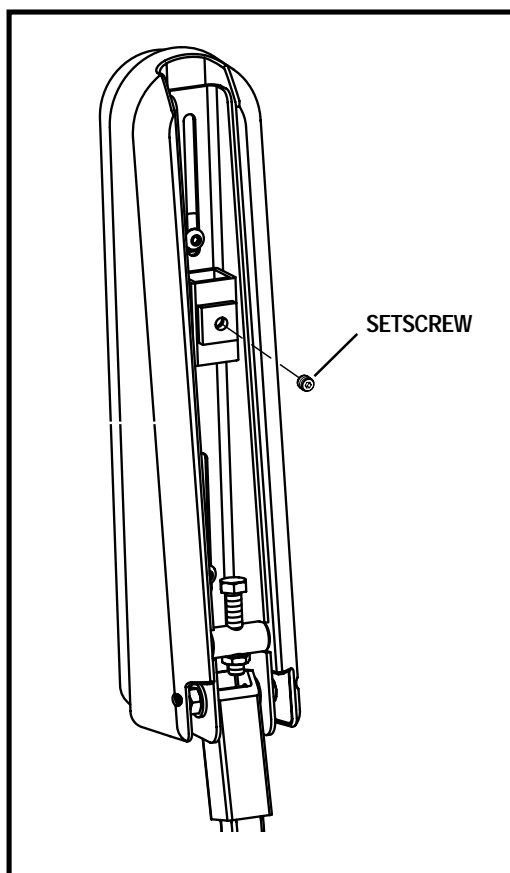

Figure 12. Controller Installation (Underside of Armrest)
2. On a contour seat, flip up the armrest and loosen the setscrew. See figure 12. On the standard seat, loosen the setscrews in the mounting block. See figure 19.
1. Use a hex key to loosen the setscrew(s). See figure 12 or 17.